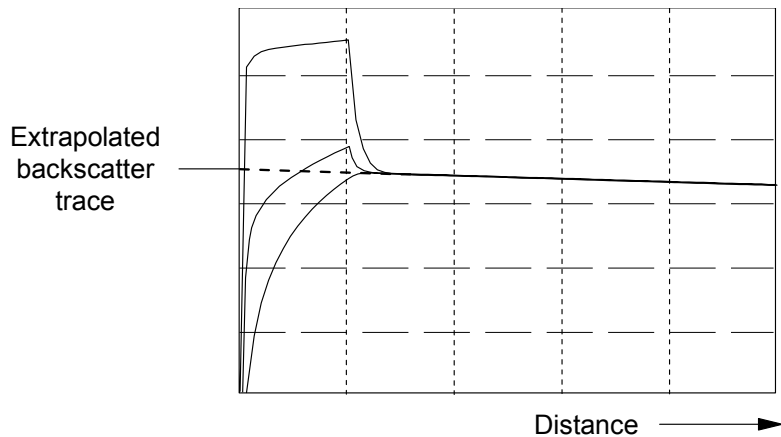

Figure C-2
A typical value is approximately 50 dB for 1  $\mu$ s pulse width, depending on the wavelength and the type of fiber. The extrapolated backscatter trace is a measure of the near-end backscatter power. See Figure C-2.
**Measurement:** It is recommended to connect a standard single mode fiber with a length of more than 20 times the pulse width in meters to the OTDR. Then determine the difference between the extrapolated backscatter trace (as in Figure C-2) and the  $\rightarrow$ noise level (RMS).